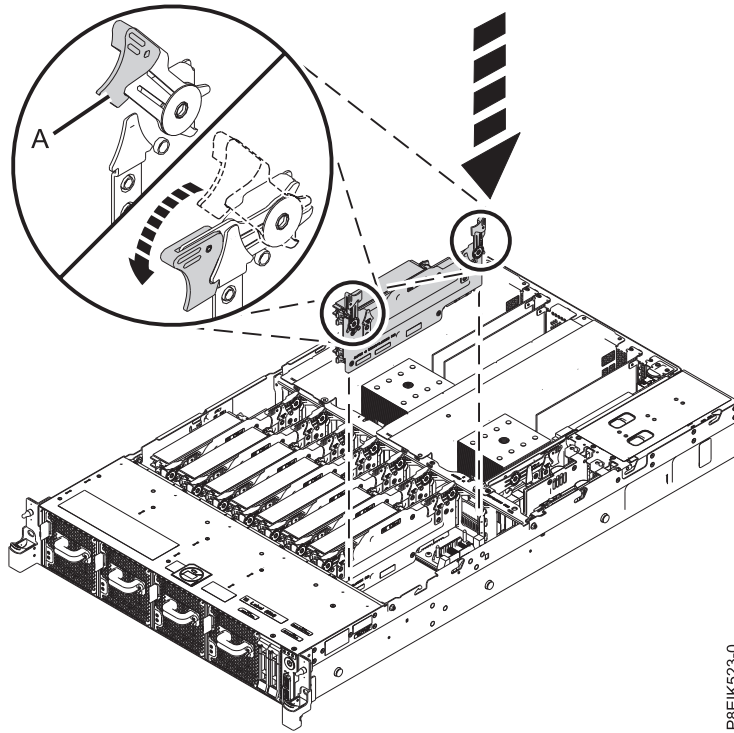

Figure 91. Replacing a memory riser in the system
- a. Ensure that the release latches are open to about a 60-degree angle as shown in Figure 91 on page 75.
- d. Press the release latches into the closed position. See **(A)** in Figure 91 on page 75.